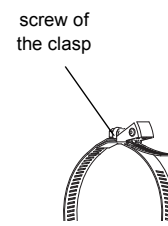

Fig. 9.14: Quick release clasp with tension strap
- Place the tension strap around the pipe and insert it into the clasp (see Fig. 9.14).